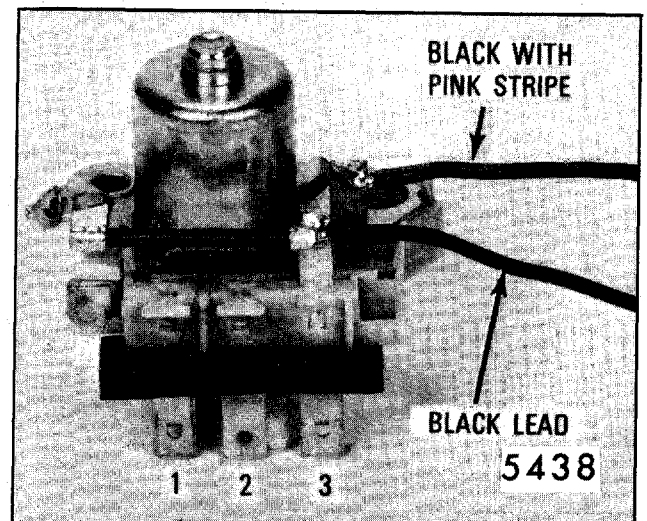

Fig. 2-45-Relay Switch and Terminal Board
3. Remove relay switch and terminal board attaching screw and carefully lift the assembly out of the gearbox. Unsolder leads as required. Refer to Figure 2-45 when resoldering leads.